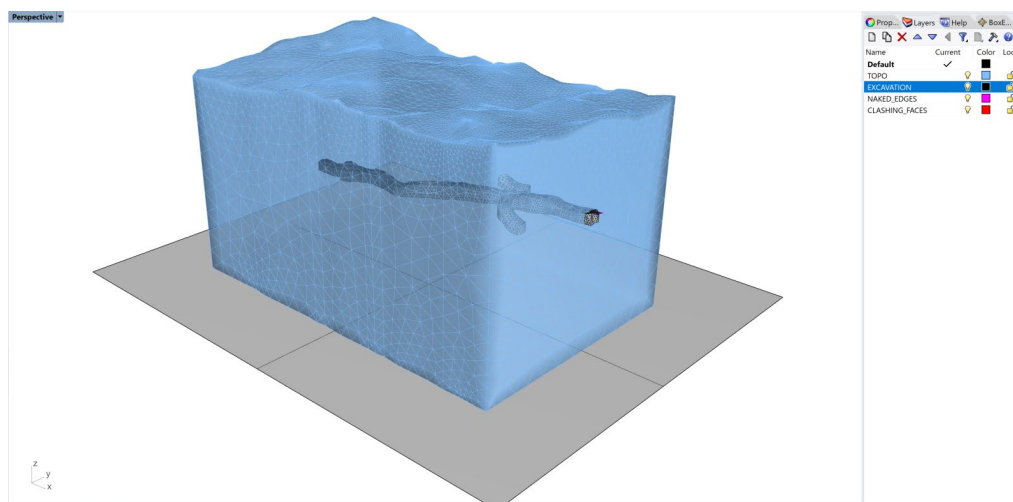

Figure 72: Creating watertight mesh domain with *GExtrude* command (Ghosted view).
- The command will extrude the topographic mesh along its boundary until the intersection with the plane and will create side and bottom meshes. The result should look as shown in Figure 72.